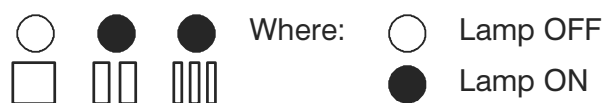

Fig. 7.9
- 4 The lamps should give the indication as in Fig. 7.9 (coefficient K setting). If not, press the reset button repeatedly to obtain it.